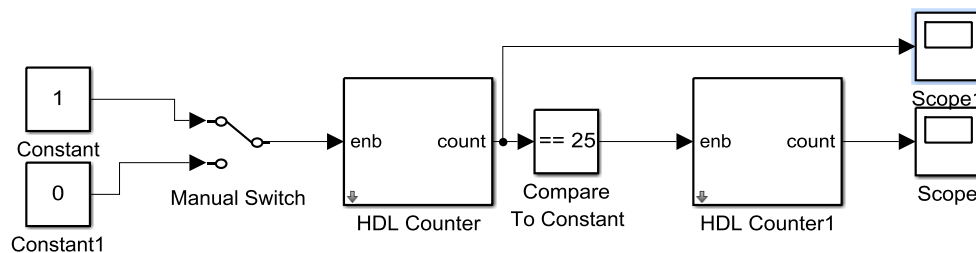

Figure 3. Simulink model to analyze counter cascading
- 23) Simulate the design (shown in Figure 3), observe the scope output with switch in “1” position.